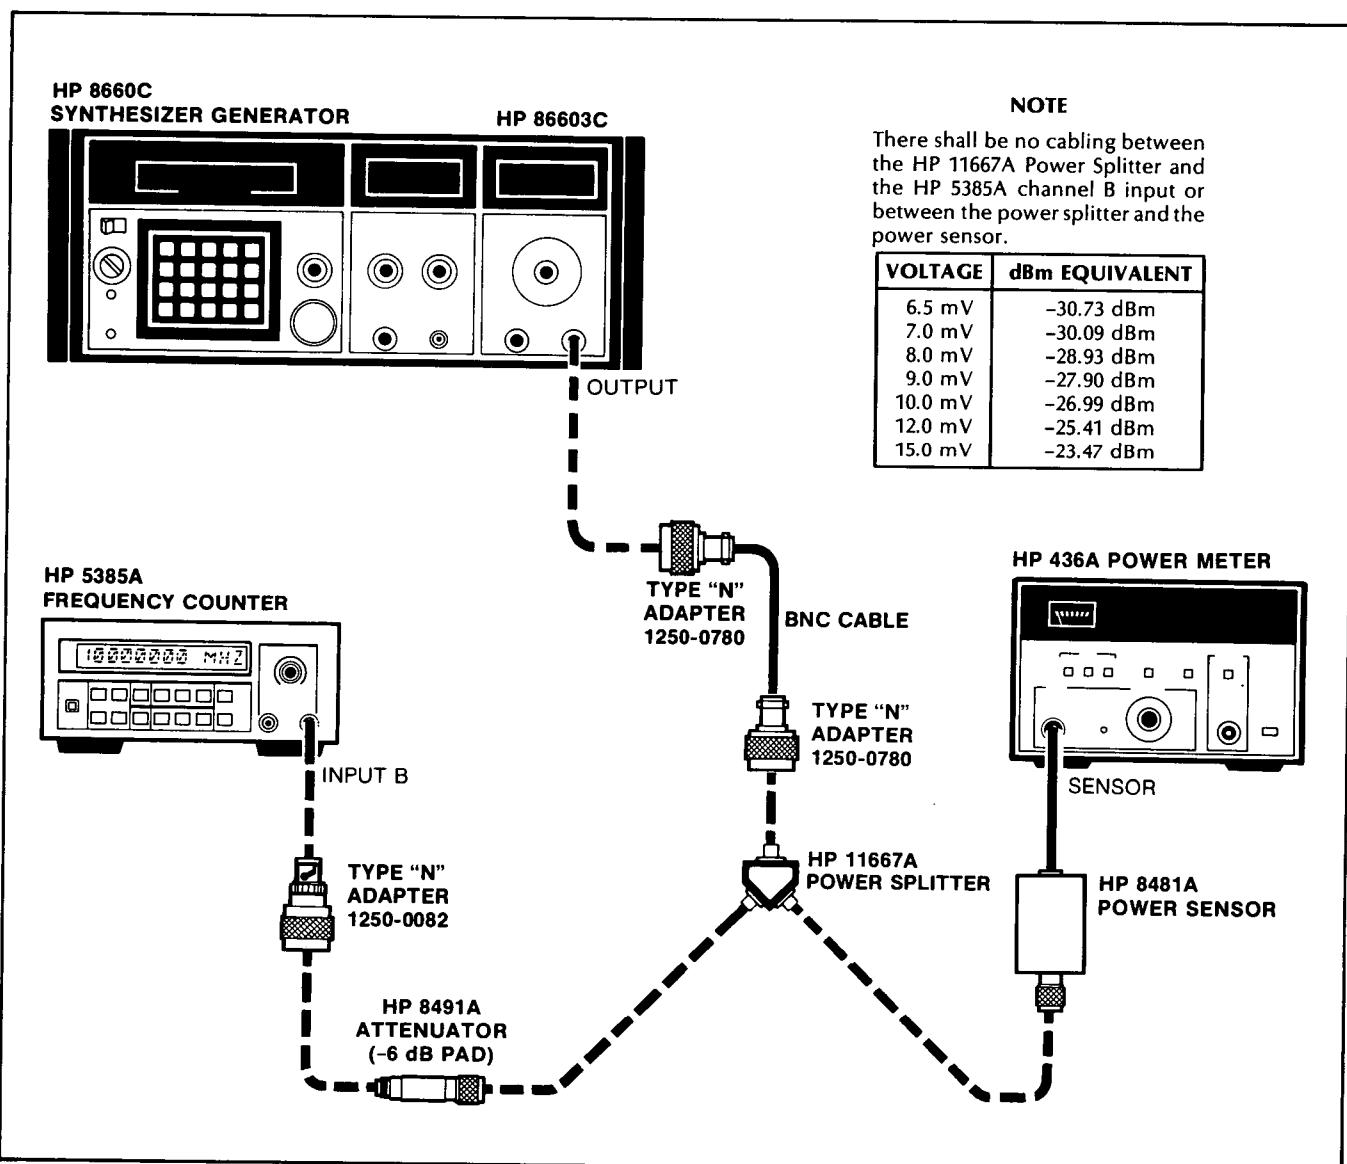

Figure 5-5. HP 5385A Channel B Input Amplifier Adjustment Setup
- Connect instruments as shown in *Figure 5-5*.